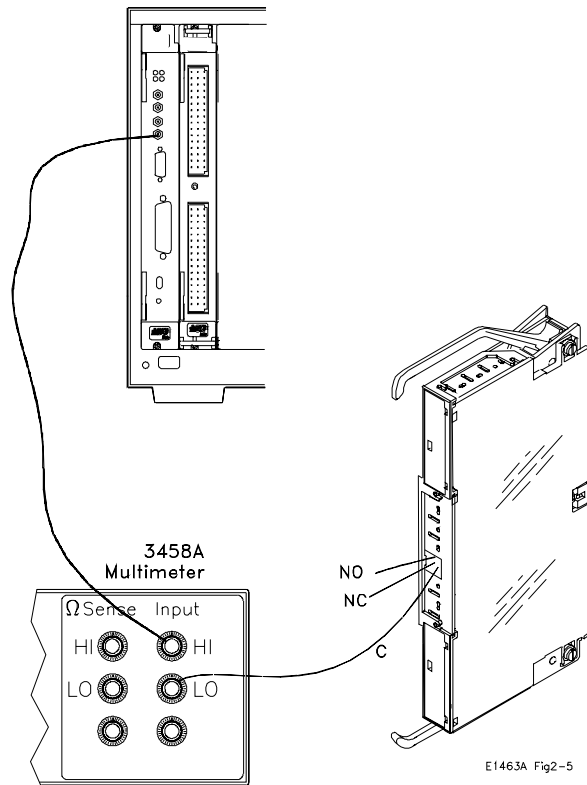

Figure 2-5. NO and NC to Chassis Isolation
1. Make hardware connections as shown in Figure 2-5